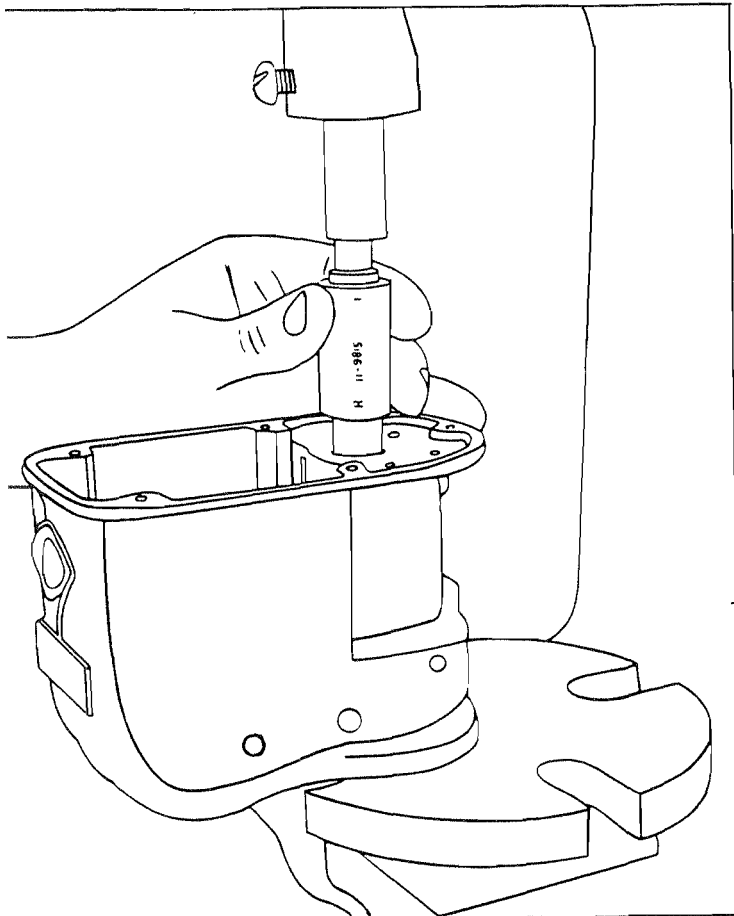

Figure 403. Pressing Roller Bearing Out of Housing
- A. Remove ventilator (64) and plug (68) or orifice (65), plug (66, 67), and bushing (69) or plug (73) from housing (72).
- B. Place drive end of housing (72) on a suitable block resting on base plate of an arbor press. Using end stamped R of 11-9815 Drift, press out roller bearing (63) as shown in Figure 403 and discard.